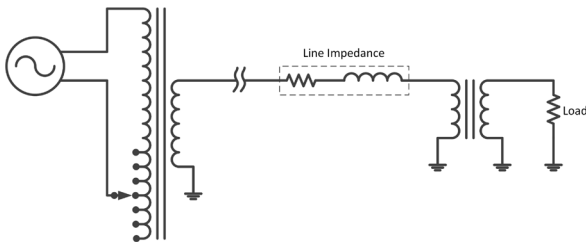
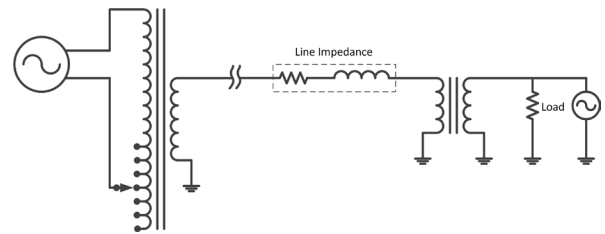

Figure 1. Typical Distribution Feeder
Figure 2. Complex Distribution Feeder
**When most distribution systems were installed, they were much simpler than they are today.** The structure was well defined. Generation was owned by the utility. Power flowed from the power plant or the transmission system across mostly radial-connected distribution to customer loads. This simplicity made it much easier to control system voltage, particularly at the load. Figure 1 shows a typical distribution feeder including a transformer with load tap changer (LTC) and customer load.
distributed energy resources (DER) located throughout the distribution system. This makes the distribution system look more like figure 2 instead of figure 1.